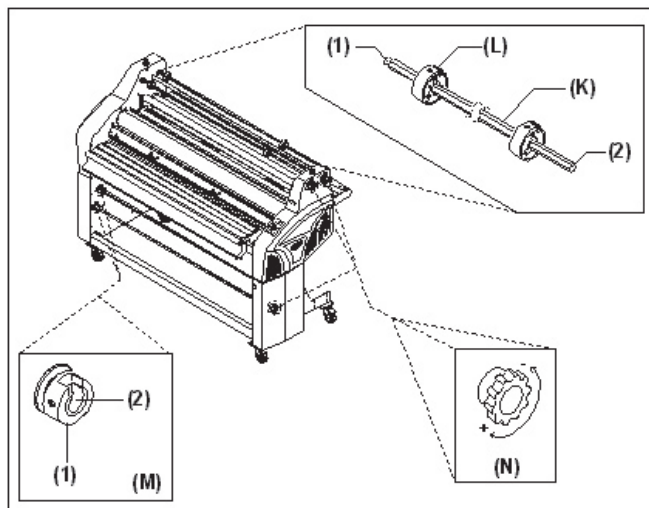

Fig 18
K. FILM SHAFT: (Figure 18) The film shaft holds the film supply on the machine.
L. CORE ADAPTORS: (Figure 18) Hold and lock the rolls of film on the shafts to prevent side to side shifting.
M. LOWER SHAFT LOCK: (Figure 18) Secures the left side of the lower shafts. To remove a shaft, turn the outer dial (1) opening so it aligns with the inner u-channel (2) opening and lift up and out.
N. UNWIND/ REWIND TENSION: (Figure 18) Used to apply resistance to the film shaft.